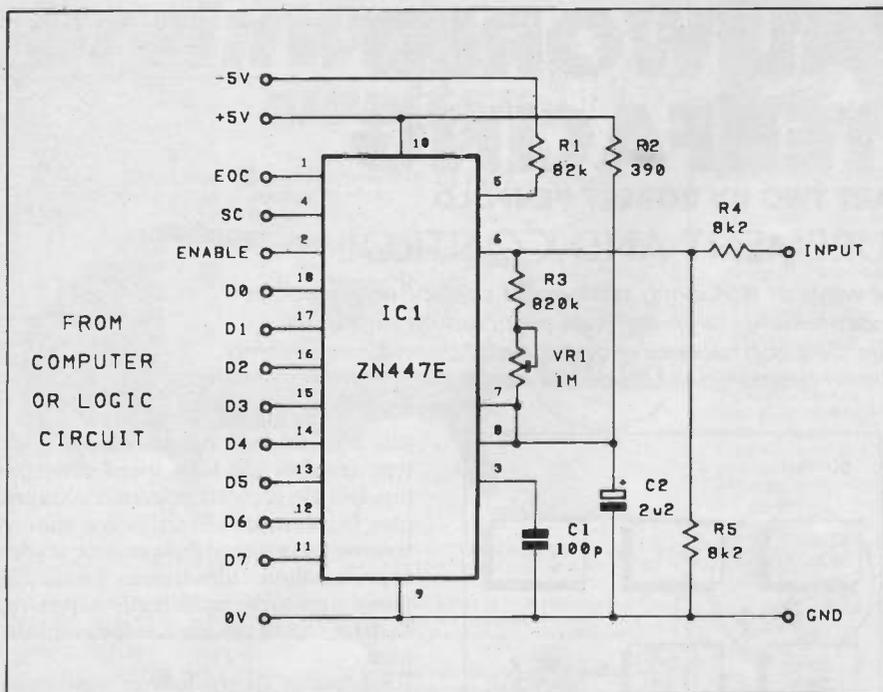

Fig 2. The ZN447E A-D converter circuit
Fig.2 shows the basic circuit for a ZN447E series converter. Starting with the connections to the microprocessor or other logic circuit, D0 to D7 are 8 bit output. These are tristate outputs that can be directly interfaced to the data bus of many microprocessors. They are activated by taking the ENABLE input to logic 0. In common with most a/d converters, the ZN447E does not automatically run in a continuous conversion mode. Each conversion must be initiated by a brief (as little as 200ns) low pulse at the start conversion (SC) input. The conversion will be completed in nine clock cycles, and a timing loop or circuit can be used to prevent premature reading of the converter. Alternatively, the end of conversion, (EOC) output can be brought into service. This goes to logic
An external clock signal of up to 1MHz in frequency can be applied to pin 3 of the device, but in most cases it is easier to use the built-in clock oscillator. This requires only a single discrete component, which is a timing capacitor connected from pin 3 to ground. The value of 100p shown in Fig.2 gives a clock frequency of just under 1MHz, and a conversion time of around 10µs. An 82p timing capacitor represents about the lowest value that is guaranteed to give reliable operation, and the conversion time is then about 9µs. Most ZN447Es will actually operate with lower values, and conversion times as low as 5µs are often possible. Even the guaranteed 9µs conversion time represents about 110000 conversions per second, which is adequate for all but a few highly specialised applications.
The d/a converter section of the ZN447E has a built-in 2.55 volt reference source, but an external reference voltage of between 1.5 and 3 volts can be connected to pin 7 if desired. There would not normally be any point in doing so however, and in most cases the built-in reference will suffice. In Fig.2 the internal voltage source is used, and this requires discrete components R2 and C2.